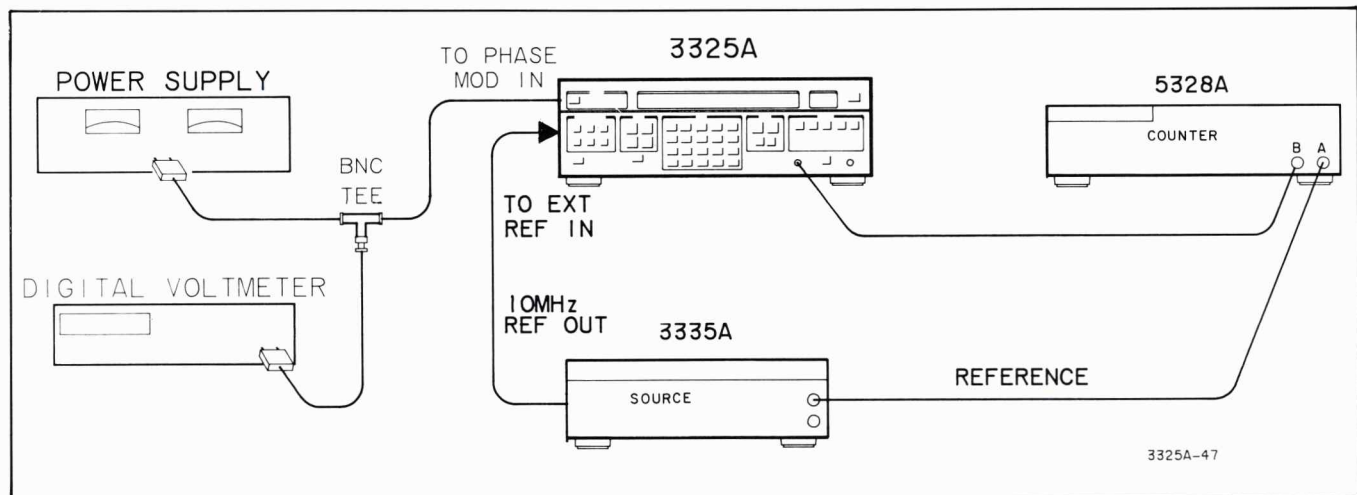

Figure 4-8. Phase Modulation Linearity.
a. Connect the equipment as shown in Figure 4-8.